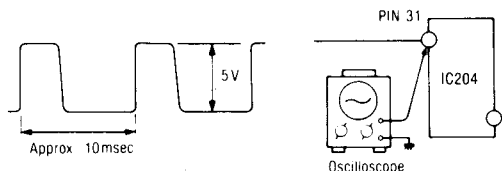

Fig. 21
- Connect an oscilloscope to pin 31 of IC204, as shown in Fig. 21.